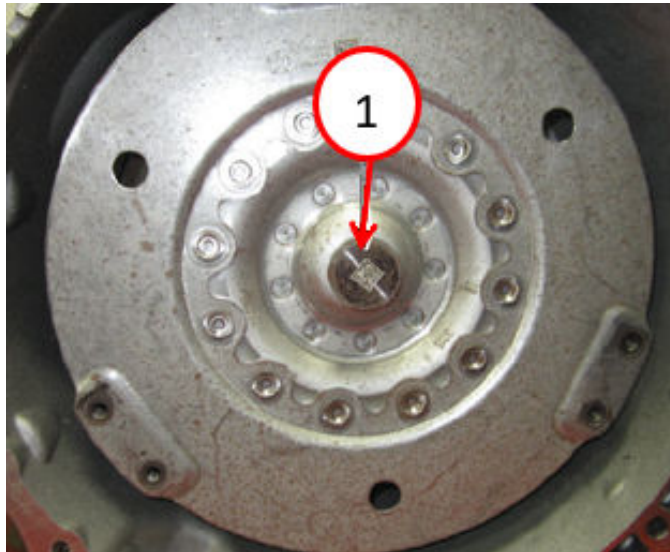

Fig. 56
83. Install the torque converter Fig. 56 Refer to the detailed service procedures available in DealerCONNECT/ Service Library under: Service Info> 21 - Transmission and Transfer Case/Automatic/Torque Converter/ Installation.